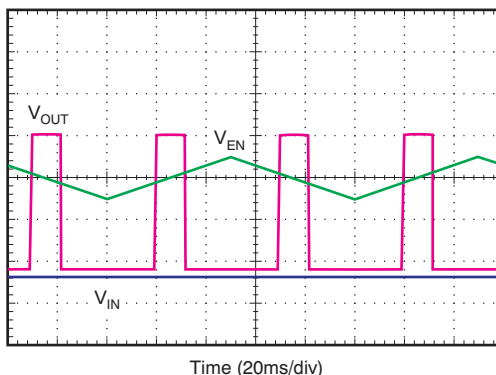

Figure 30. Enable Pin Positive and Negative Threshold
The TPS7A30 provides a dual-polarity enable pin (EN) that turns on the regulator when  $|V_{EN}| > 2 \text{ V}$ , whether the voltage is positive or negative, as shown in Figure 30.